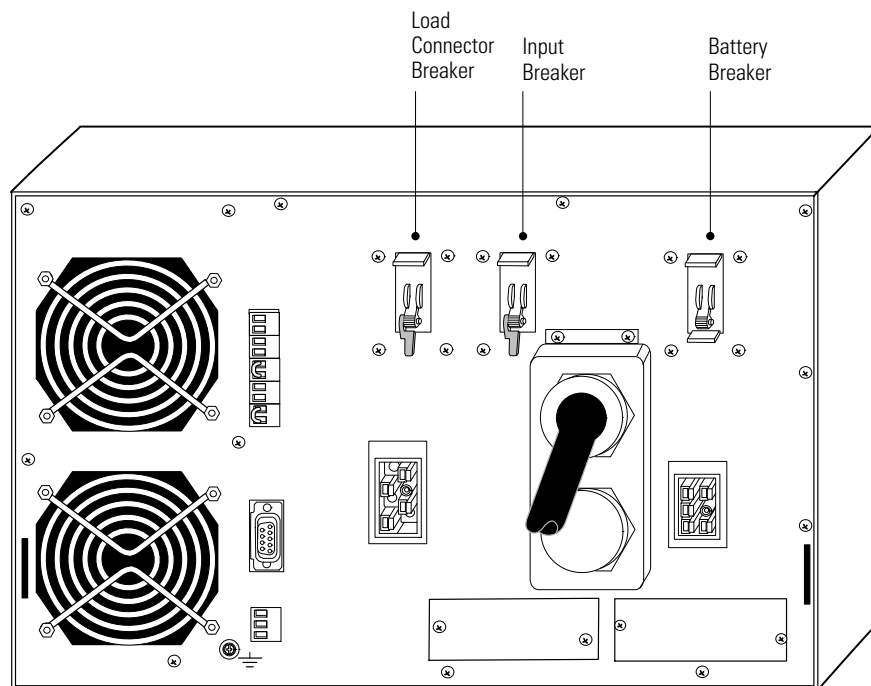

Figure 14. BladeUPS Module Rear Panel
1. Verify that all battery circuit breakers on all UPSs are in the OFF (O) position (see Figure 14).